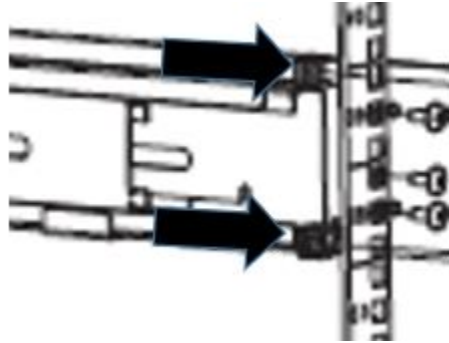

Figure 12: Install Cage Nuts in the Front Equipment Rail with Square Holes
6. Install the 4x cage nuts in the rack front equipment rail, with square holes. One in each of the first locations below the bottom rail kit screw and one in each of the first locations above the top rail kit screw (see Figure 12).